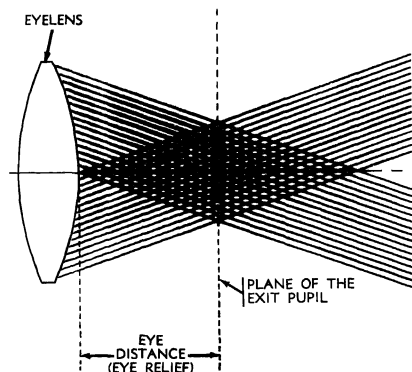

Figure 5-27.—Eye distance and exit pupil plane.
**EYE DISTANCE**, often called eye relief, is the term given to the numerical measure of the distance from the rear surface of the rear eyepiece lens to the fixed position of the exit pupil (fig. 5-27).